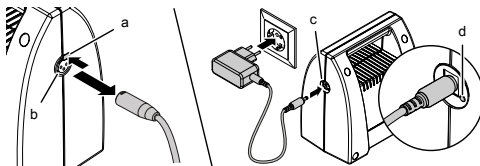

Fig. 9: Charging the accumulator pack
- Before carrying out any work on the drive, disconnect the cable connecting the drive to the accumulator pack! (see also chapter 7.2, fig. 9)
An error occurred during the self-test. Door does not open or close.	Unplug the cable connecting the drive to the accumulator pack (see chapter 7.2, fig. 9) and plug it back in after approx. 10 seconds.